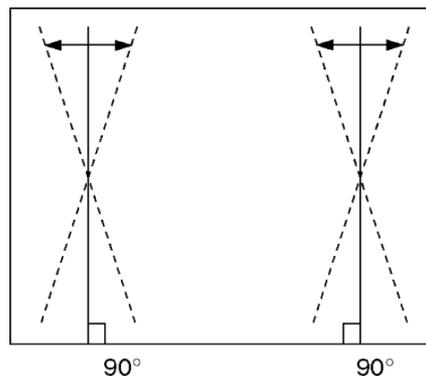

Fig. 5
4. Adjust the vertical line to straight line of both sides vertical line in Fig. 5 by Trapezoid (50p / 4:3).
4. Adjust the vertical line to straight line of both sides vertical line in Fig. 5 by Trapezoid (60p / 4:3).